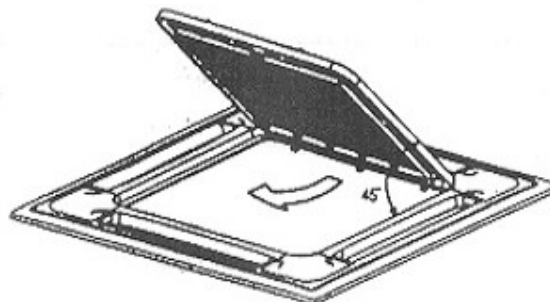

Fig 9
- (2) Lift the air inlet grille to about 45° and then take it down (See Fig 9);